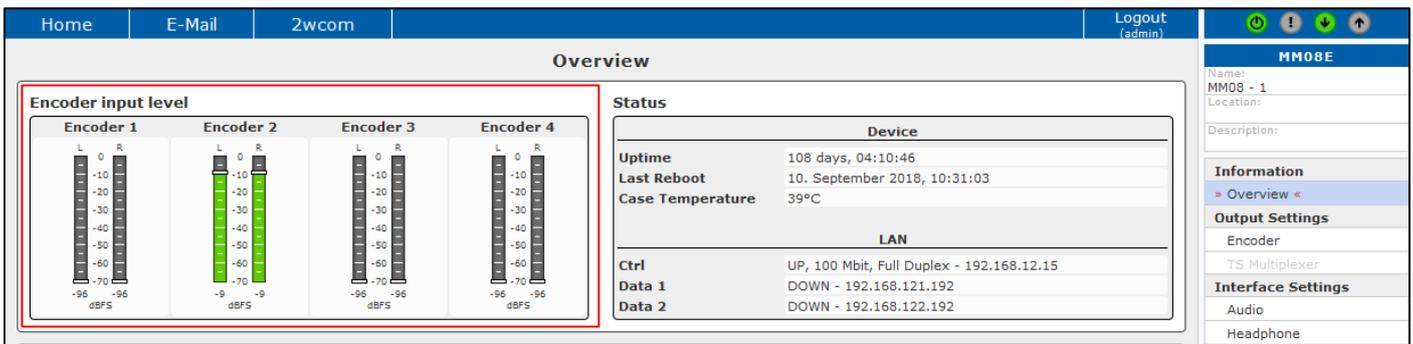

Figure 23: Overview – Audio level
- The current level of the inputs is displayed on the display of the unit and in the web interface under **Information**→**Overview** in the field “Audio Levels” (see Figure 23).